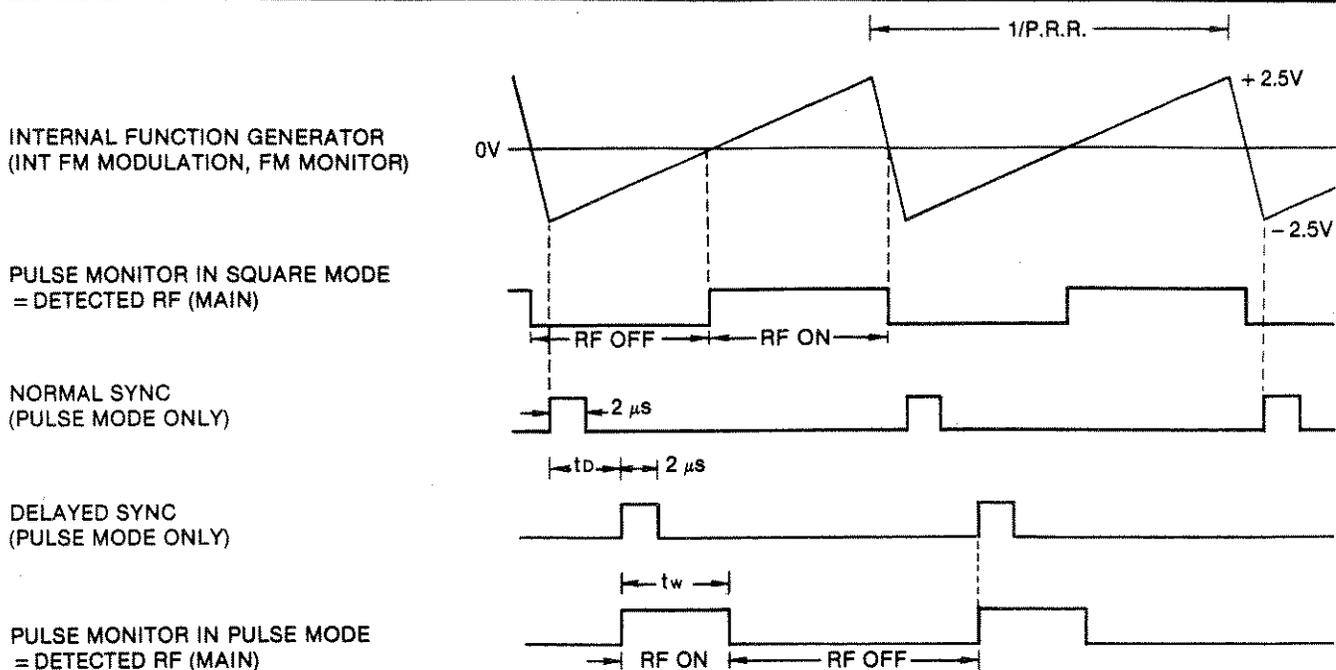

Figure 3-2. Pulse Mode Timing Diagram
- 5 MODE Buttons** — Three buttons set the mode to continuous wave output (CW), frequency modulated output (FM) or pulsed output (PULSE). Submodes to FM and pulse are further selected by **6** and **7** respectively. The CW mode LED indicator lights when CW is selected. The 907 can be in FM and PULSE modes at the same time, but no other combinations of these three modes are possible. Buttons are press-to-hold, press-to-release. Should all three buttons be released, the mode will be CW (the indicator will not be lit).
- 6 FM (INT/EXT)** — Submode selector of FM **5**. When pressed in, modulation source is the front panel controlled internal sawtooth generator. When the button is extended, the modulator source is the externally applied signal at **28**. (Ref: Figure 3-2.)
- INT**  — Pulsed RF output at 50% duty cycle controlled by the internal pulse generator whose rate is set by **8** and **25**. (Ref: Figure 3-2.)
- INT**  — Pulsed RF output controlled by the internal generator whose rate is set by **8** and **25** and whose width is set by **10** and **19**. Delay relative to NORMAL SYNC **21** is adjusted by **9** and **22**. (Ref: Figure 3-2.)
(1) Ref: Figure 3-2